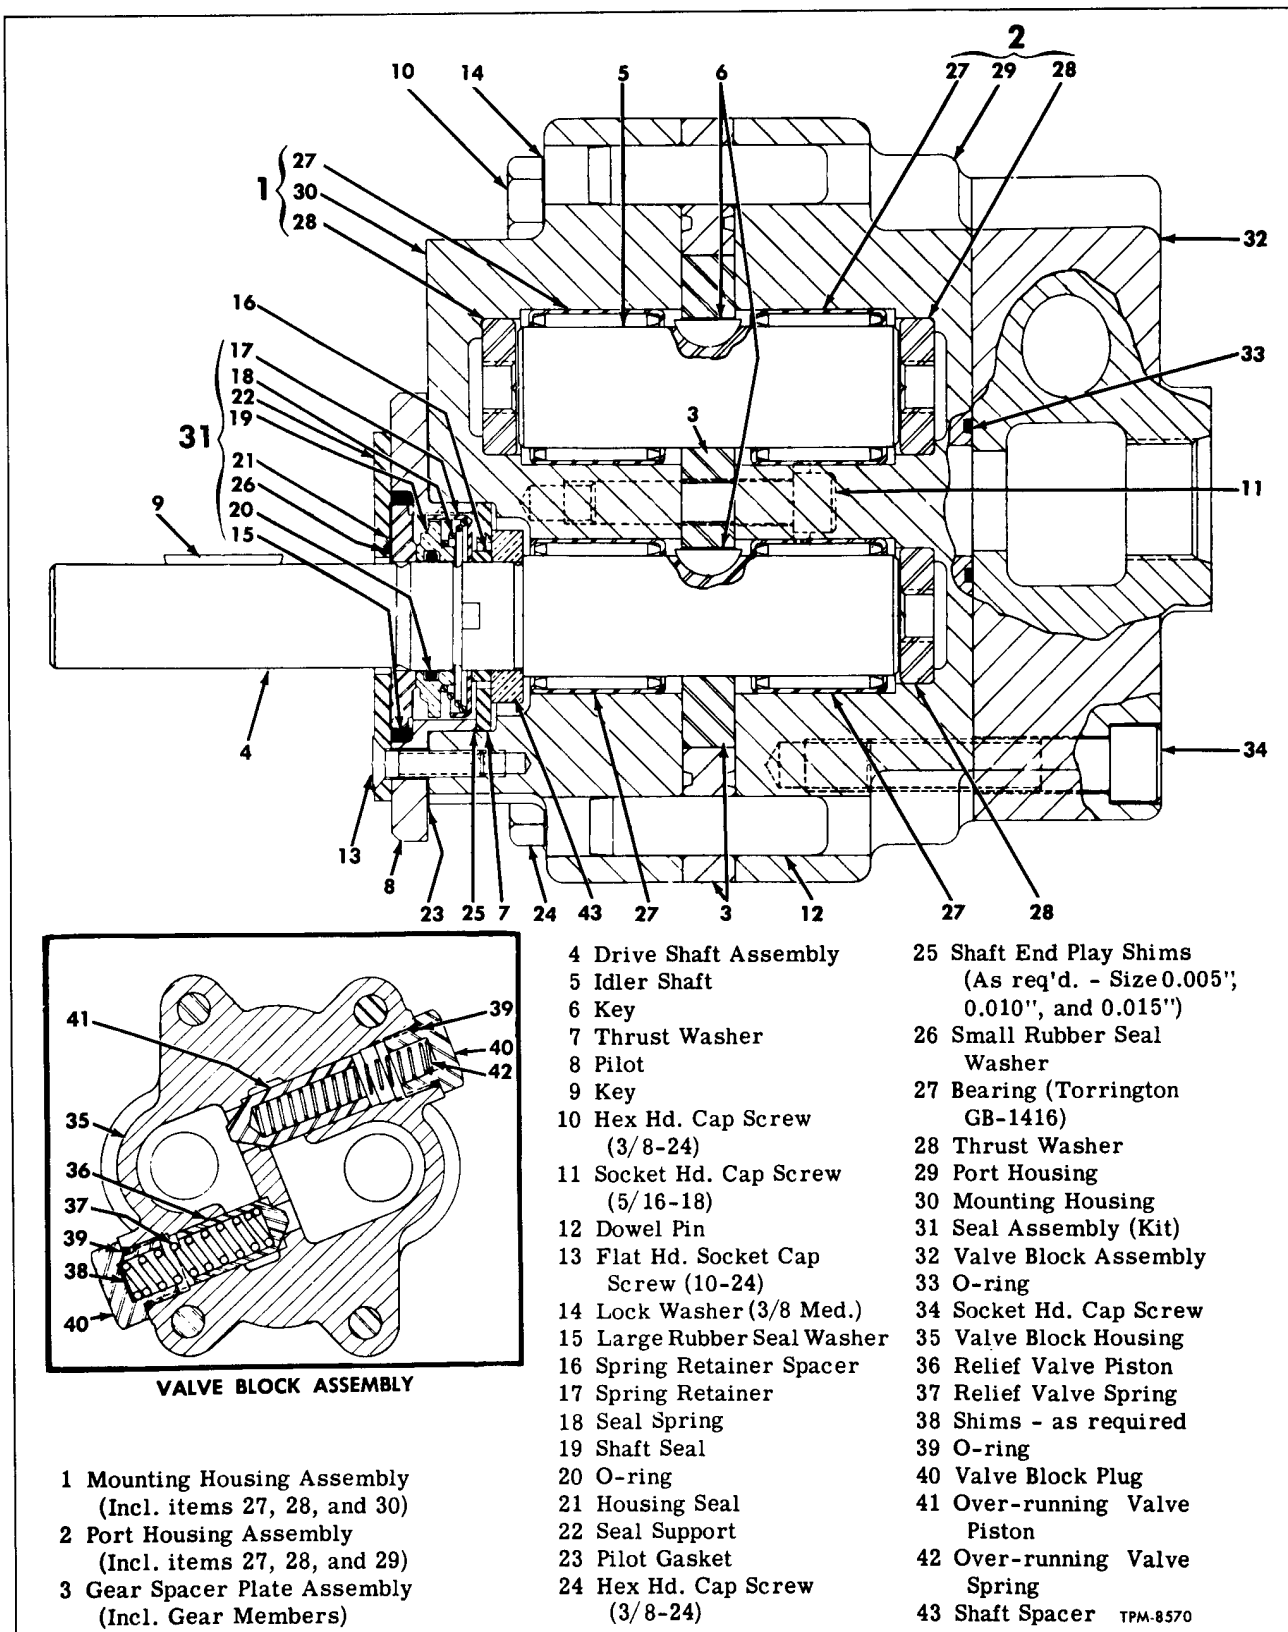

Figure 30—Sectional View of Condenser Fan Drive Fluid Motor
NOTE: Key numbers in following text refer to figure 30.
NOTE: Key numbers in text refer to figure 30.
1. Making sure grooved side of thrust washers (28) are up, carefully drive each washer into recess. Use a wood or soft metal driver.
2. Using a suitable bearing installer, press bearings (27) into housing recess to distance shown.
3. Insert drive shaft (4) into mounting housing (30), then press shaft spacer (43) onto shaft until it butts on shoulder of shaft.
4. Assemble drive keys (6), gear and plate assembly (3) idler shaft (5) and install into position making sure alignment marks made prior to disassembly are aligned. Install port housing (29).
5. With dowel pins positioned as shown in figure 30, drive pins to locate pump major units.
6. Install two cap screws (11), six cap screws (10), and two cap screws (24) securing pump components together. Final tighten all cap screws.
7. Referring to sectional view of valve block (fig. 30), install relief valve piston (36), spring (37), shims (38), O-ring (39) and plug (40) into valve block as shown. At other port, install over-running valve piston (41), piston spring (42), O-ring (39) and plug (40) into valve block as shown. With O-ring (33) located in port housing groove, install valve block assembly (32) to port housing with four cap screws (34). Tighten cap screws evenly and firmly.
8. Referring to figure 30 which shows position of shaft seal components, install shaft end play shims (25) if used, spring retainer spacer (16) and thrust washer (7).